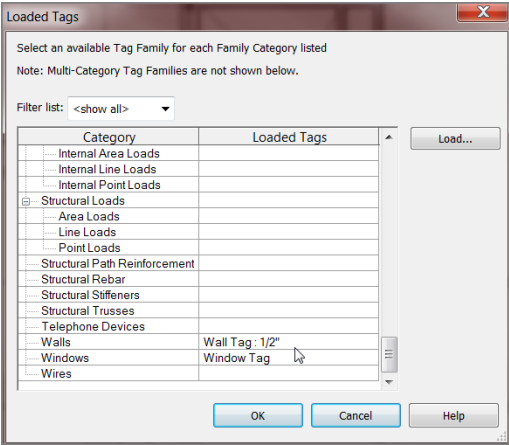

FIGURE 11.66: Changing the default tag for walls to Wall Tag : 1/2"
- 11. In the Tags dialog, scroll down to Walls, as shown in Figure 11.66.